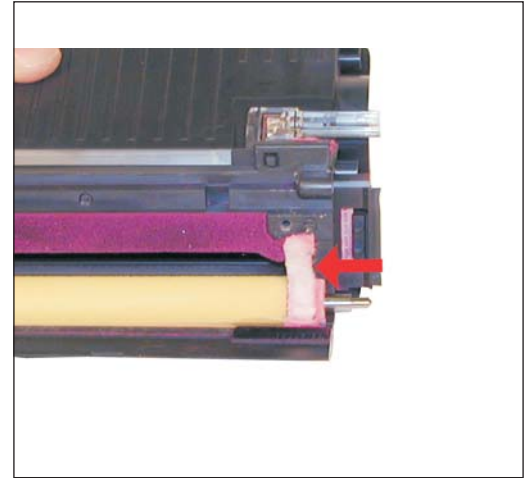

Figure 74
47) Replace the developer roller seal, clean if necessary. When new replacement seal are available, these should also be replaced. See Figure 74